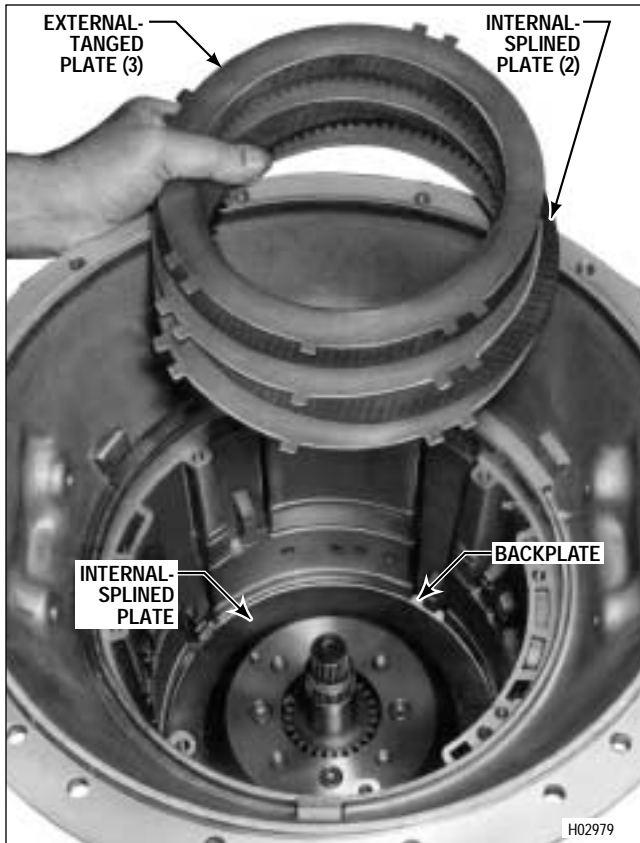

Figure 7-8. Installing Second Clutch Plates
(1) Refer to Paragraph 6-17e for second clutch running clearance specifications. **The stack dimension procedure is the only method available for determining proper second clutch running clearance.**
(2) Install the second clutch backplate (Figure 7-8). Note the location of the single tang in the single slot in the transmission housing.
(3) Beginning with an internal-splined plate, alternately install three internal-splined and three external-tanged second clutch plates (Figure 7-8). The single tangs of the clutch plates must align with the single tang of the backplate.